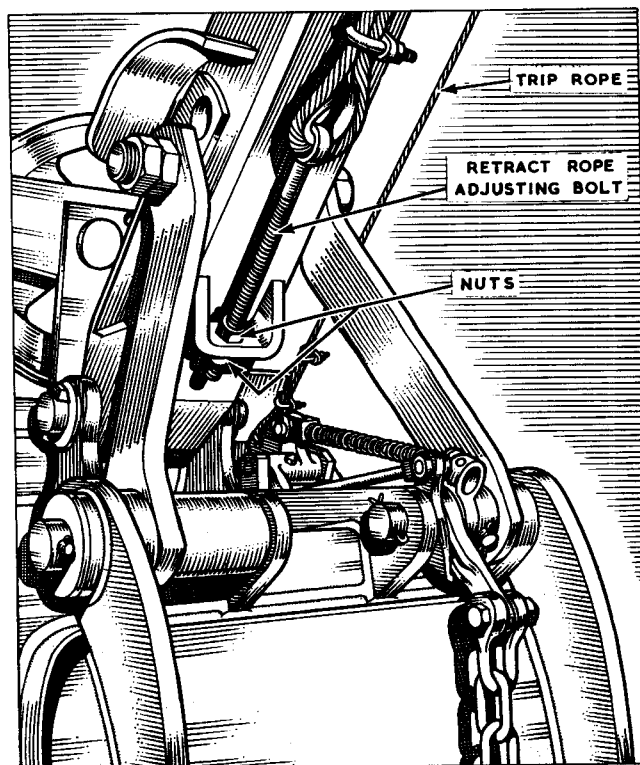

Fig. 8. Adjusting the Tension of the Crowd and Retract Ropes.
2. Release the tension in the backhaul rope by slacking off the adjusting eye bolt at the lower end of the dipper handle, (See Fig. 8) and remove the rope clips. Drive out the wedges holding the ends of the crowd and backhaul ropes in the crowd drum at the foot of the boom and take off the old ropes.
5. Anchor the new backhaul rope to the centre wedge socket of the boom foot drum, and wind approximately one wrap on the drum, then lead the rope forward from the bottom of the drum, up through the boom and over the centre groove in the shipper shaft drum, down to the adjusting eye bolt on the dipper handle. (Fig. 8).
1. Anchor the end of the rope to the dump lever on top of the shovel dipper by passing it through the thimble and securing it by means of two bulldog clips (See Fig. 8.)